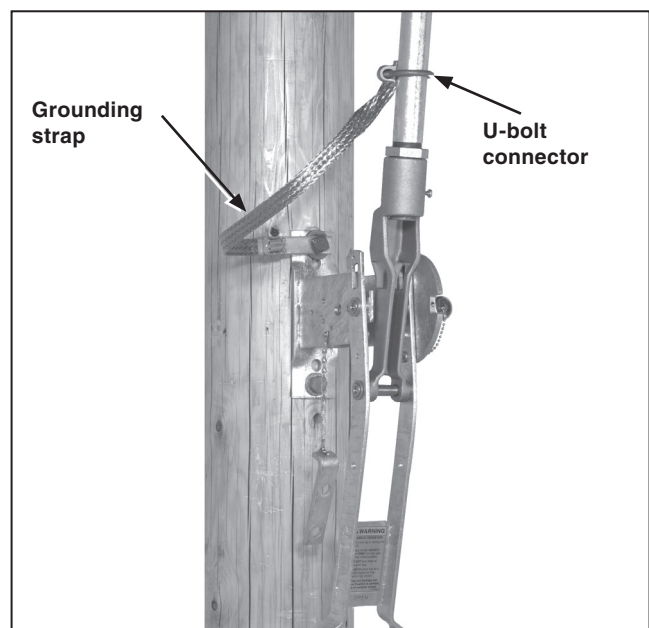

Figure 21. Attaching the grounding strap.
STEP 19. Fasten the free end of the grounding strap to the lowest vertical operating-pipe section a few inches above the operating-handle assembly with the U-bolt connector provided for this purpose. See Figure 21. Then, connect the lower end of the strap to a suitable earth ground, using the grounding connector provided at that end of the strap. ●